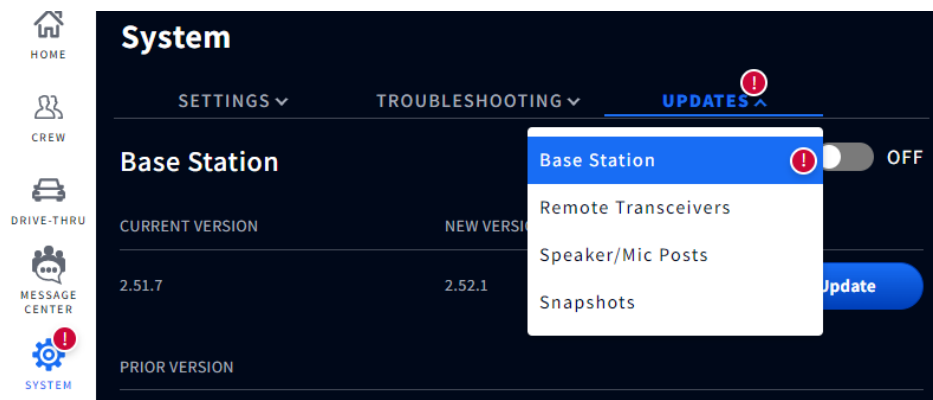

Fig. 14.8
2. Tap on the UPDATES tab. In this example, the Base Station option requires attention. See Fig. 14.8.
3. Select Base Station from the drop-down list (Fig. 14.8).